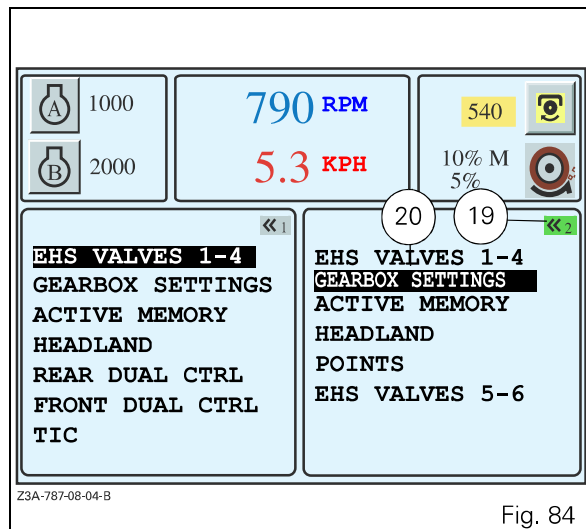

Fig. 84
Displays the GEARBOX SETTINGS menu in the right-hand window (Fig. 84):
- To start one of the applications, press the key «1, or the key «2 twice. The first key press selects the window and the second displays the list. The active application is represented by a green button at the top right-hand of the window (19 Fig. 84).
- To call up the various menus, select the application using the encoder. The selected application is displayed in a black frame (20 Fig. 84).